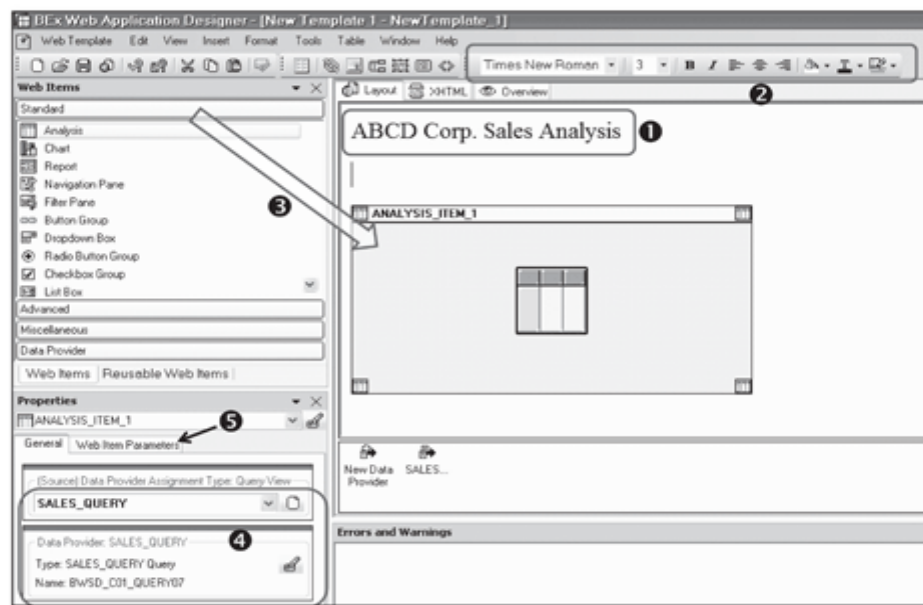
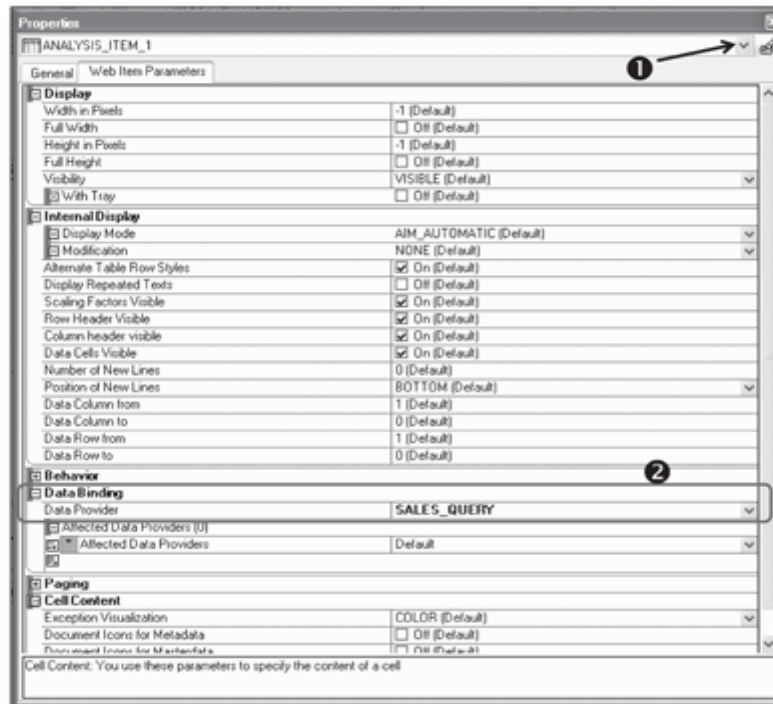

Figure 11.5 Add Heading and Insert Analysis Web Item
Figure 11.6 Maintain Properties of Analysis Web Item
Before you begin adding different web items to the web template, first create a heading for the web application. You can enter the text directly into the template layout screen (see ❶ of Figure 11.5) and can control its display using the formatting toolbar shown in ❷ of Figure 11.5.
You can now start including required web items in the layout. The Analysis web item is used when you have to display data in a tabular format in the web application. To add this web item to the template, drag it from the Web Items area, and place it in the layout (see ❸ of Figure 11.5).
Because the Analysis web item displays data, it needs to be assigned to a data provider. The data provider assignment can be done on the General tab in properties area (see ❷ of Figure 11.5).
Click on the Web Item Parameters tab (see ❺ of Figure 11.5) to maintain settings for the selected Analysis web item. The Web Item Parameters tab for an Analysis web item is shown in Figure 11.6.
You can change the name of the web item by clicking on the Edit icon shown in ❶ of Figure 11.6. You can control the display and behavior of the web item in the application by setting different parameters on this screen.